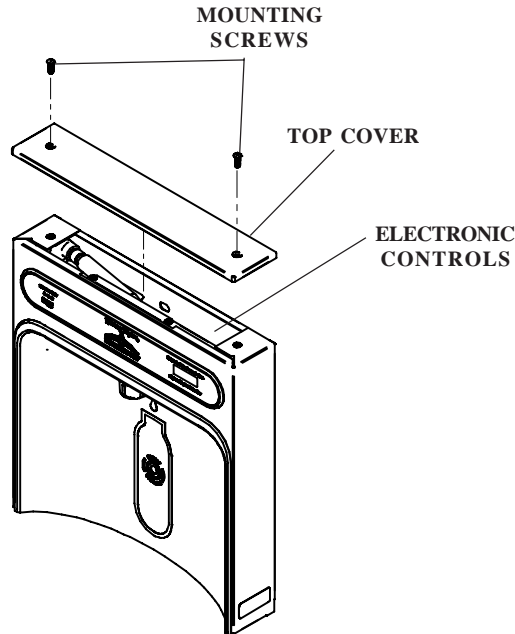

Fig. 4
- 1) In order to reset the visual filter monitor status LED's, you must remove the top cover of the bottle filler(See Fig. 4). Remove the two (2) screws with a 5/32 allen wrench holding top cover to Bottle Filler. Remove top cover. Do not discard mounting screws, they will be needed to reinstall the top cover.